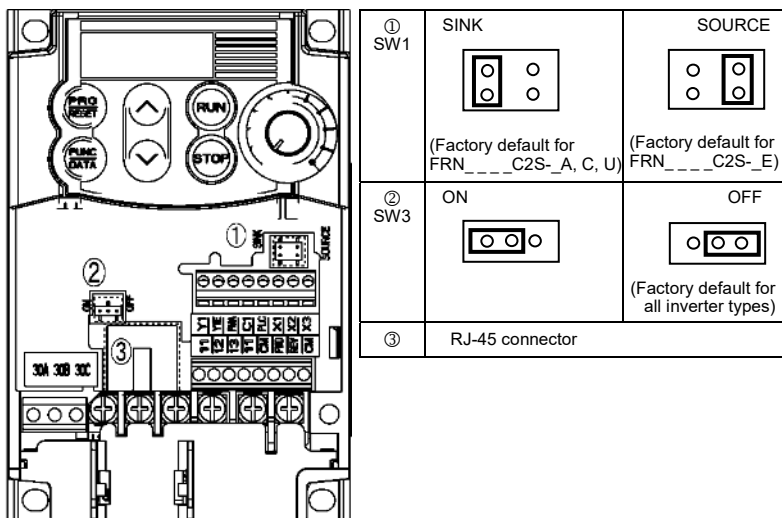

Figure 2.11 Locations of Jumper Switches and RJ-45 Connector
Switching the jumper switches (shown in Figure 2.11) allows you to customize the specifications of the digital I/O terminals and the RS-485 communication terminating resistor.
① SW1	<p>SINK/SOURCE switch for digital input terminals</p> <ul style="list-style-type: none"> <li>• To use digital input terminals [X1] to [X3], [FWD] and [REV] in the SINK mode, set a jumper in the sink position, to use them in the SOURCE mode, set a jumper in the source position. (See Figure 2.11.)</li> <li>• To switch between SINK and SOURCE modes, use a mini needle-nose pliers or the similar tool to change the mounting position of the jumper.</li> </ul>
② SW3	<p>Terminating resistor ON/OFF switch for RS-485 communication</p> <ul style="list-style-type: none"> <li>• To connect an optional remote keypad, set a jumper in the OFF position (factory default).</li> <li>• If the inverter is connected to the RS-485 communications network as a terminating device, set a jumper in the ON position.</li> <li>• To switch the terminating resistor ON and OFF, use a mini needle-nose pliers or the similar tool to change the mounting position of the jumper.</li> </ul>
Figure 2.11 shows the locations of jumper switches and the RJ-45 connector.